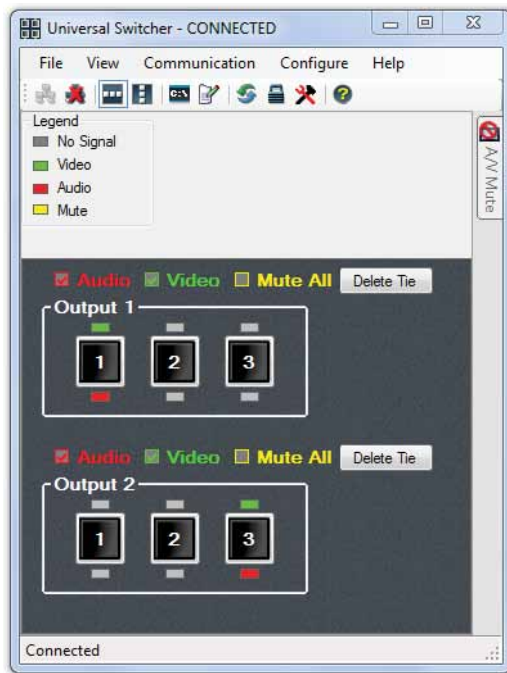

Figure 18. Universal Switcher Control Program Window
3. Click **OK**. The Control Program window displays the selected inputs for each output (figure 18).